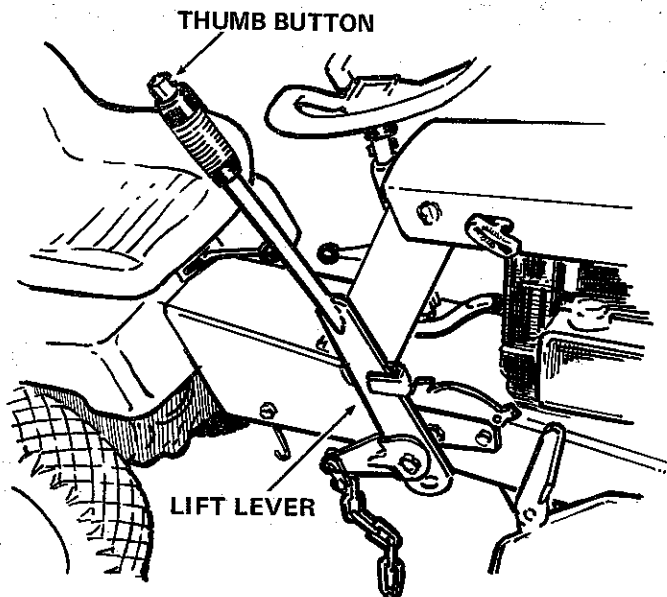

FIGURE 3
5. (Serf tractor with 594 lift kit) Place the tractor lift lever in the back position and attach the lift chain to the lift lever using the pin and spring clip. (See Figure 3).